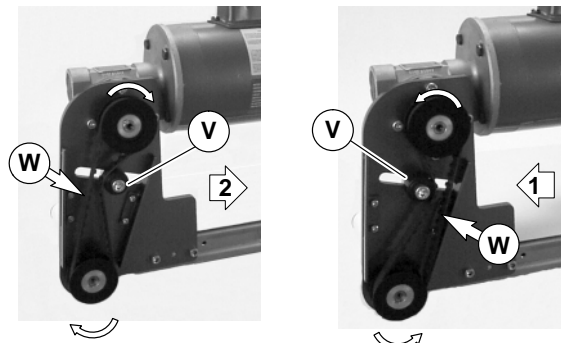

Figure 9
8. Depending on conveyor belt travel (direction 1 or 2), locate timing belt tensioner (V of Figure 9) as shown. Tension timing belt to obtain 3 mm deflection for 456 grams of force at timing belt mid-point (W). Tighten tensioner screw to 12 Nm.
3. Depending on conveyor belt travel (direction 1 or 2), locate timing belt tensioner (V of Figure 9) as shown. Tension timing belt to obtain 3 mm deflection for 456 grams of force at timing belt mid-point (W). Tighten tensioner screw to 12 Nm.
5. Depending on conveyor belt travel (direction 1 or 2), locate timing belt tensioner (V of Figure 9) as shown. Tension timing belt to obtain 3 mm deflection for 456 grams of force at timing belt mid-point (W). Tighten tensioner screw to 12 Nm.